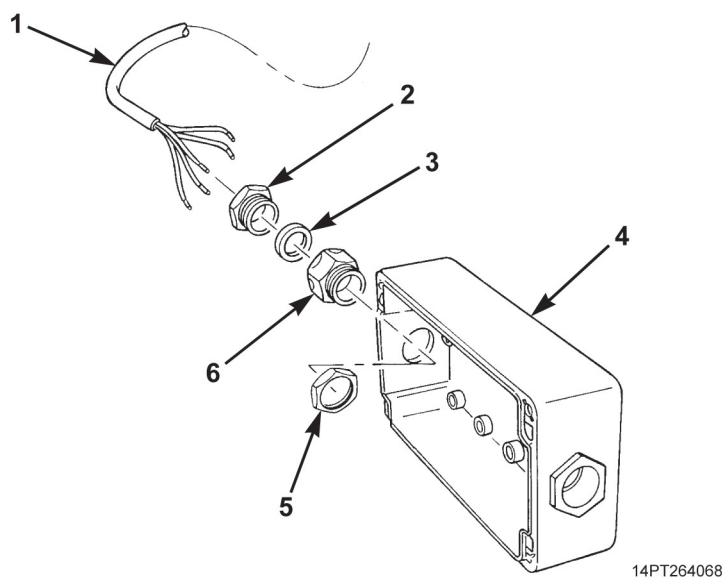

Figure 4. MCS Control Box Cable Disassembly.
9. Remove locking plug (Figure 4, Item 2), grommet (Figure 4, Item 3), and cable (Figure 4, Item 1) from control box (Figure 4, Item 4).
10. Remove nut (Figure 4, Item 5) and bushing (Figure 4, Item 6).